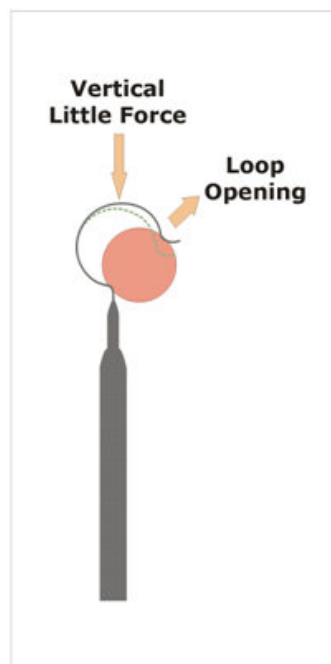
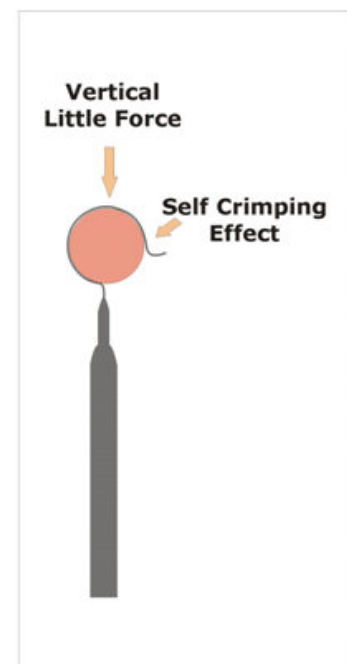

Figure 2
Figure 3
2. The loop will be opened (Figure 2) and again it returns to its original shape due to its elastic properties. (Figure 3).